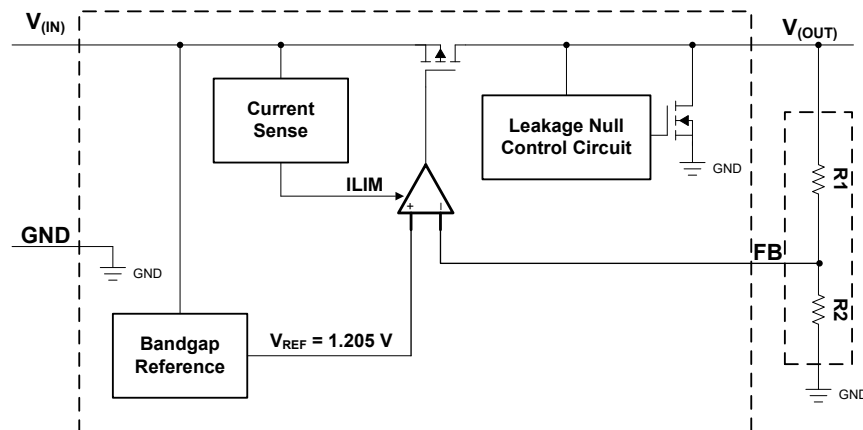

图 6-1. Functional Block Diagram—Adjustable Version
- (1) Minimum $V_{IN} = V_{OUT} + V_{DO}$ or the value shown for *Input voltage* in this table, whichever is greater.
- (2) For adjustable device, output accuracy excludes the tolerance and mismatch associated with external resistors used for setting up the output voltage level.
- (3) See Figure 6.1. The TPS715 family employs a leakage null control circuit. This circuit is active only if output current is less than pass FET leakage current. The circuit is typically active when output load is less than $5\ \mu\text{A}$, V_{IN} is greater than 18 V , and die temperature is greater than 100°C .
- (4) See Section 10.1.2 for clarification about M3 and Non-M3 devices.